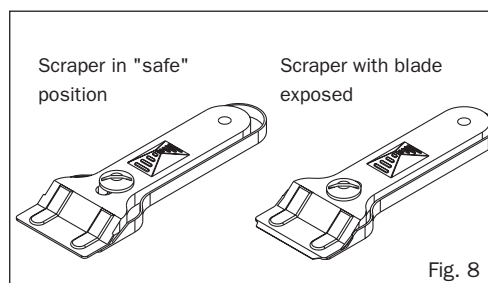

Fig. 8
- After using the scraper retract the blade and lock it in the retracted position (see figure 8).